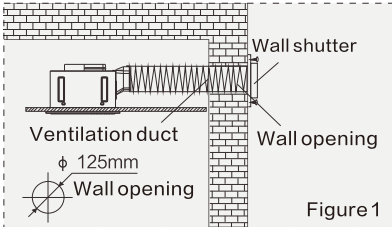

Figure 1
- For outdoor installation, please follow Figure 1;